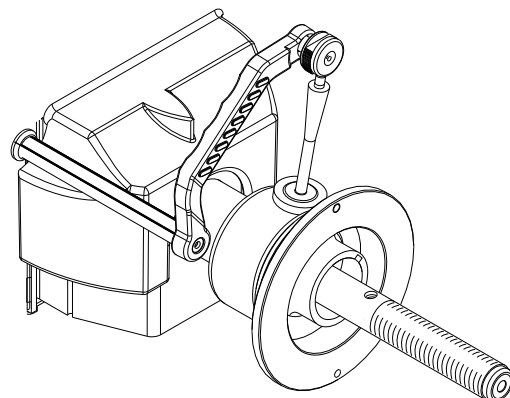

Figure 44 - Touch end of Calibration Weight resting on Bell Collar
10. Locate the Calibration Weight. Place the calibration weight with the large end oriented on the bell collar. Extend the SAPE arm outward and rotate the extension to just touch the end of the calibration weight as shown in Figure 44. A tone will sound and the display will change to **"H"** **"POS"**. Return the SAPE arm to the home position.